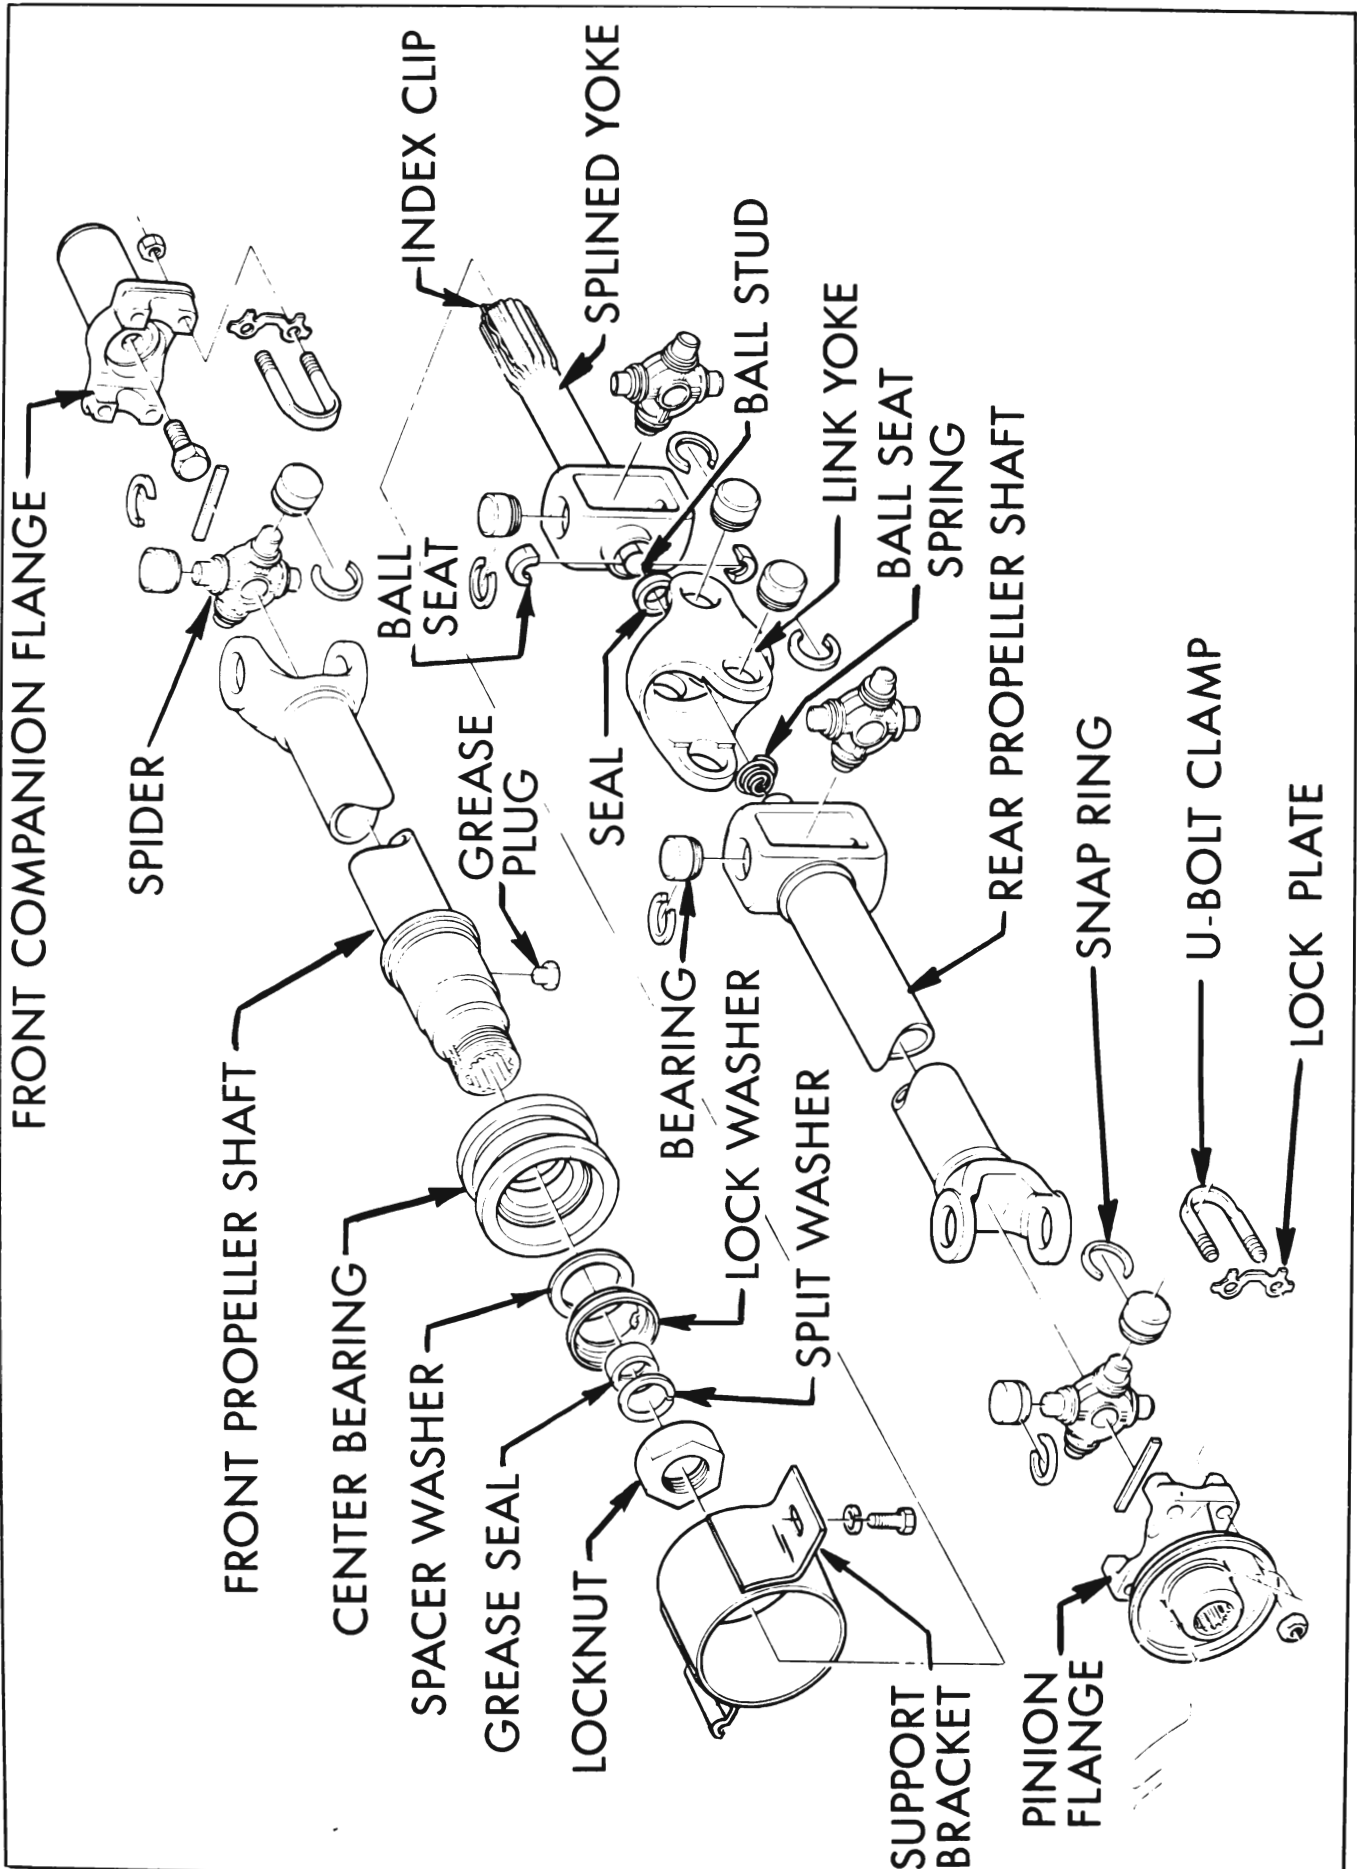

Figure 6-40. Propeller Shaft--Exploded
1. Pry up rim of lockwasher to disengage flats on bearing locknut. Loosen locknut until free of threads and slide locknut and seal against constant velocity joint. See Figure 6-40.